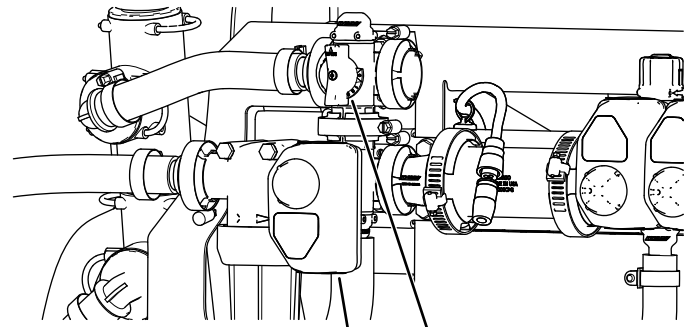

Figure 48
10. Adjust the agitation-bypass valve (Figure 48) on the backside of the agitation valve until the sprayer-system pressure indicated on the gauge indicates 689 kPa (100 psi).